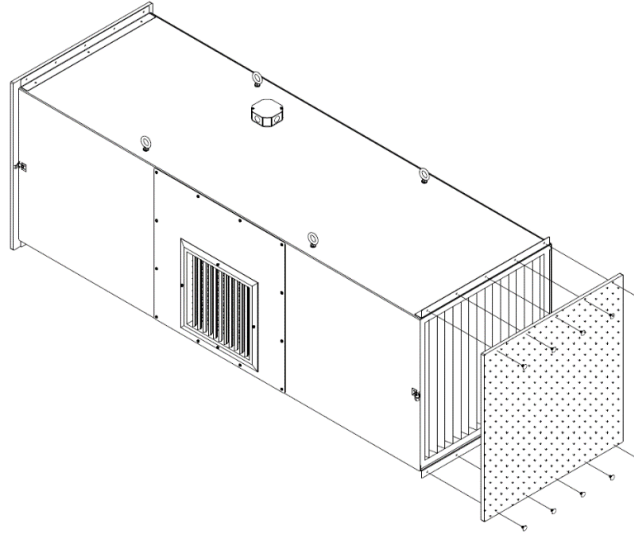

FIG. 5
**NOTE:** For units equipped with the optional Scrim Pre-Filter, remove the scrim filter from the brackets by pulling out the plastic rivets (See **FIG. 5**).